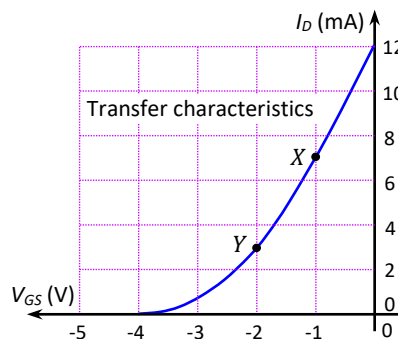

Fig.7-53: Transfer characteristic curve for Example 7-1
3. For the given transfer characteristic curve on Fig.7-53, determine the value of transconductance at points X and Y.